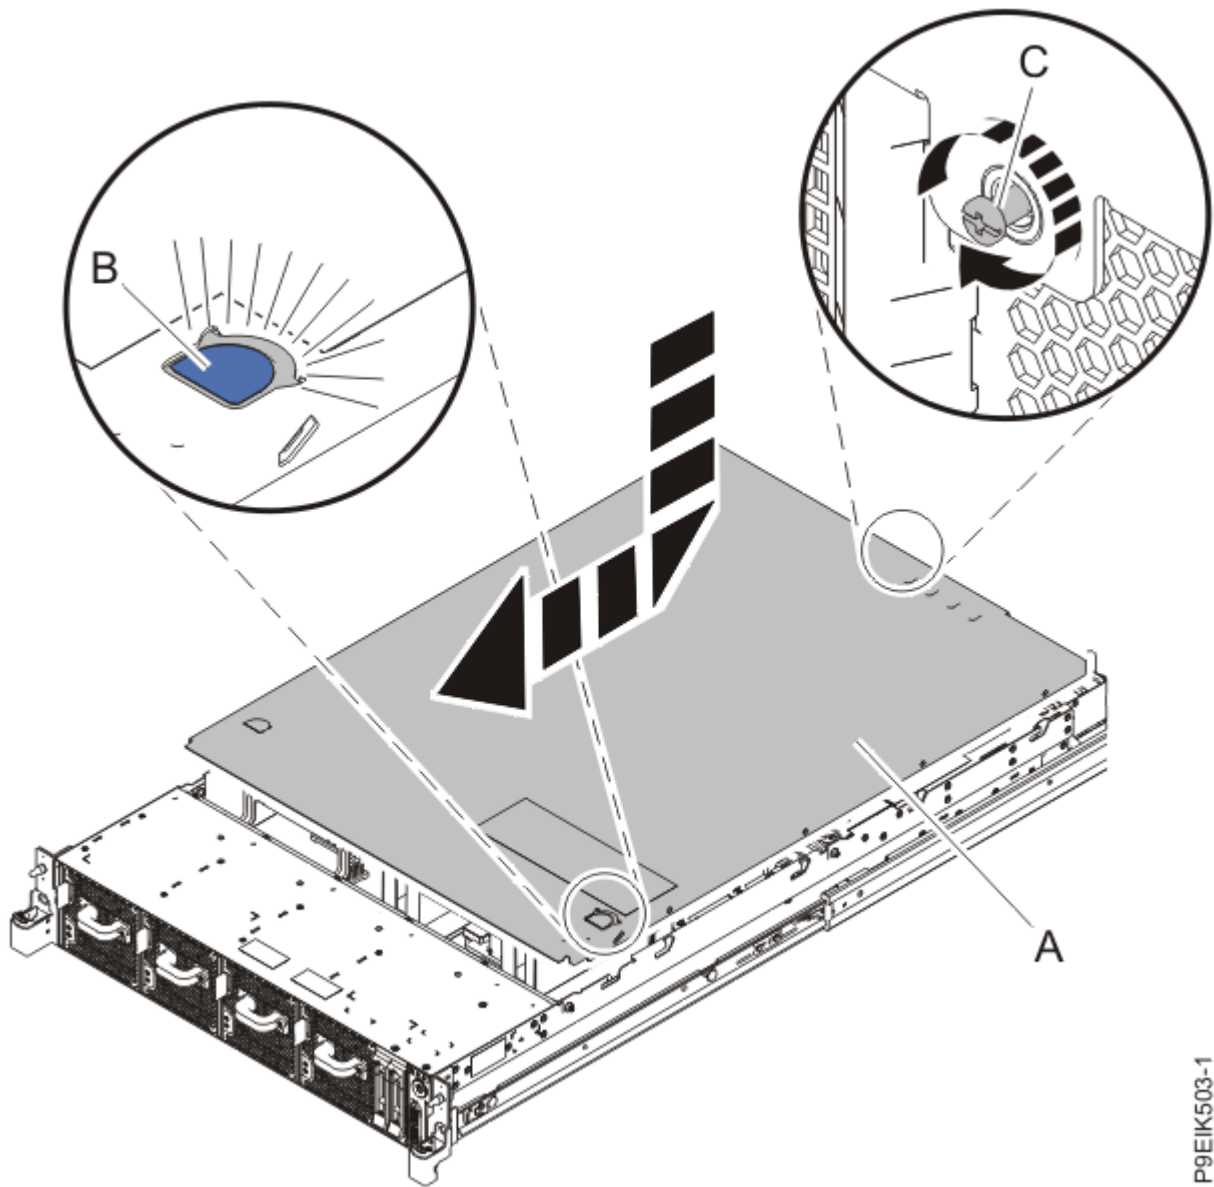

Figure 66. Installing the cover
1. Place the cover **(A)** on the system unit such that the alignment pins on the cover are aligned to the slots on the chassis. Slide the cover to the front of the system until the blue release latch **(B)** locks in to place as shown in Figure 66 on page 114.
2. Fasten the cover screw (C) at the rear of the cover.